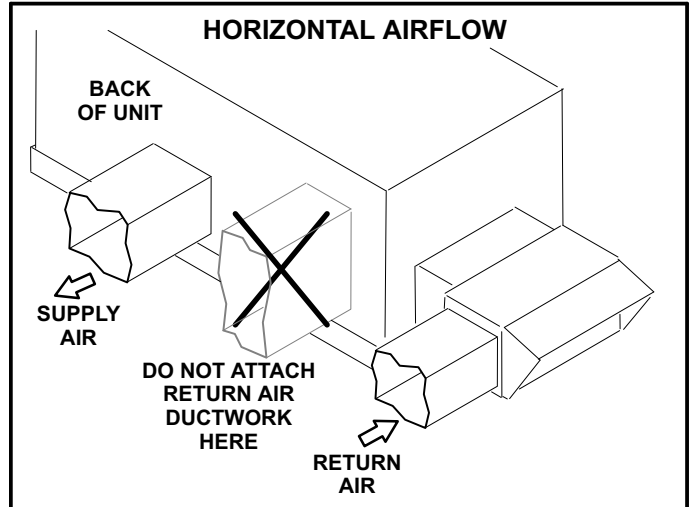

FIGURE 10
- 3- Make sure the horizontal return air cover on the back side of the unit remains in place. The opening is used when an economizer is not installed. See figure 10.